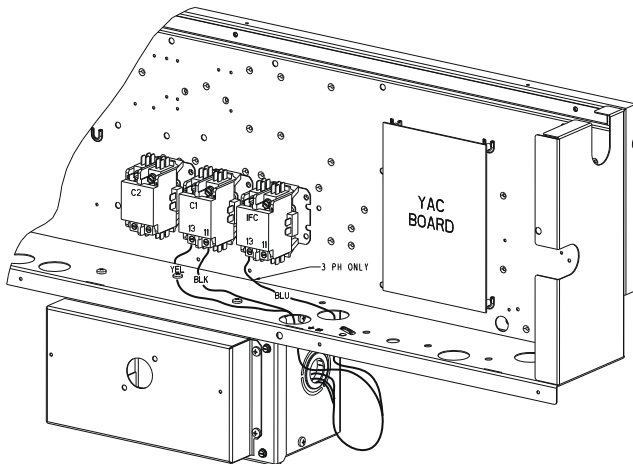
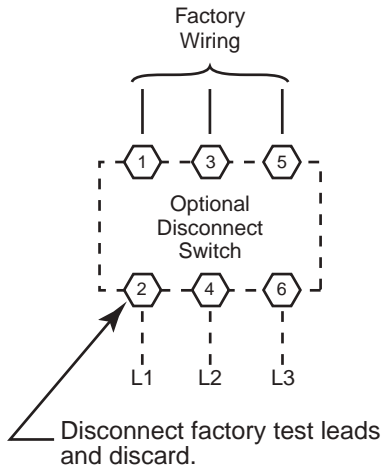

Fig. 27 — Location of Non-Fused Disconnect Enclosure
Fig. 29 — Power Wiring Connections
Field power wires are connected to the unit at line-side pressure lugs on compressor contactor C and indoor fan contactor IFC (see wiring diagram label for control box component arrangement) or at factory-installed option non-fused disconnect switch. Max wire size is #4 AWG (copper only). (See Fig. 29.)
Units with Factory-Installed Non-Fused Disconnect — The factory-installed option non-fused disconnect (NFD) switch is located in a weatherproof enclosure located under the main control box (see Fig. 27). The manual switch handle and shaft are shipped in the disconnect enclosure. Assemble the shaft and handle to the switch at this point. Discard the factory test leads (see Fig. 29).
All Units — All field wiring must comply with NEC and all local codes. Size wire based on MCA (Minimum Circuit Amps) on the unit informative plate. See Fig. 29 and the unit label diagram for power wiring connections to the unit power terminal blocks and equipment ground. Maximum wire size is #4 ga AWG per pole.
2. Install power lines to terminal connections as shown in Fig. 29.